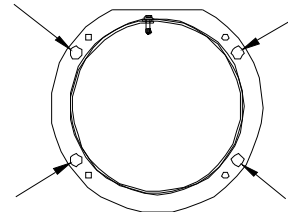

Figure 5
Step 4: From the heat exchanger side of the furnace, align the holes of the cold air plenum exhaust pipe with the holes in the furnace exhaust pipe (see Figure 5) and secure the assembly using the four screws from step 2.